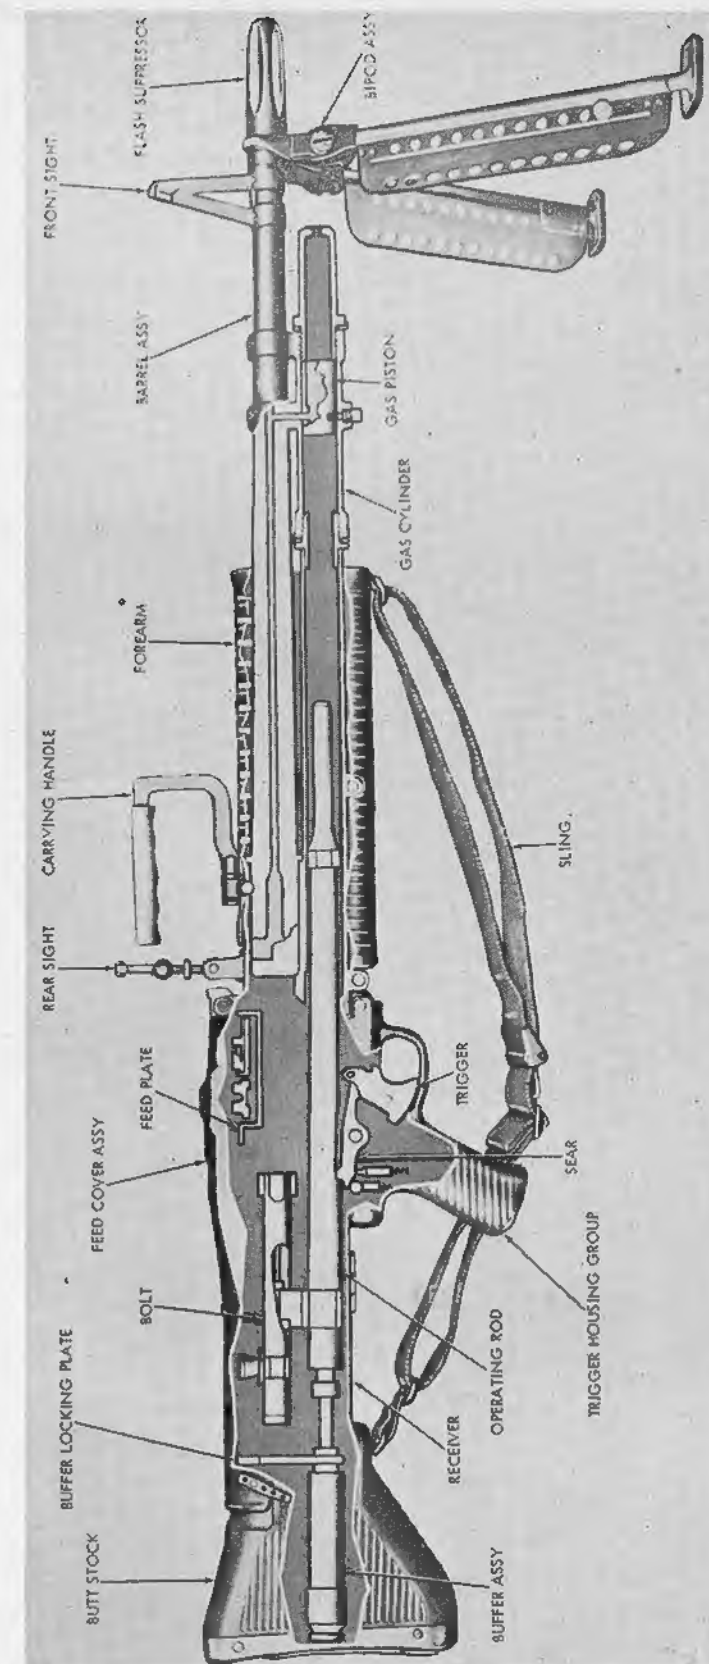

Figure 6. Cutaway view of 7.62-mm machine gun M60.
15. Barrel Assembly (fig. 6)
16. Butt Stock and Forearm (fig. 6)
17. Buffer Assembly (fig. 6)
18. Trigger Housing Group (fig. 6)
19. Bolt Group and Operating Rod (fig. 6)
20. Feed Cover Group and Feed Plate (fig. 6)
21. Receiver (fig. 6)